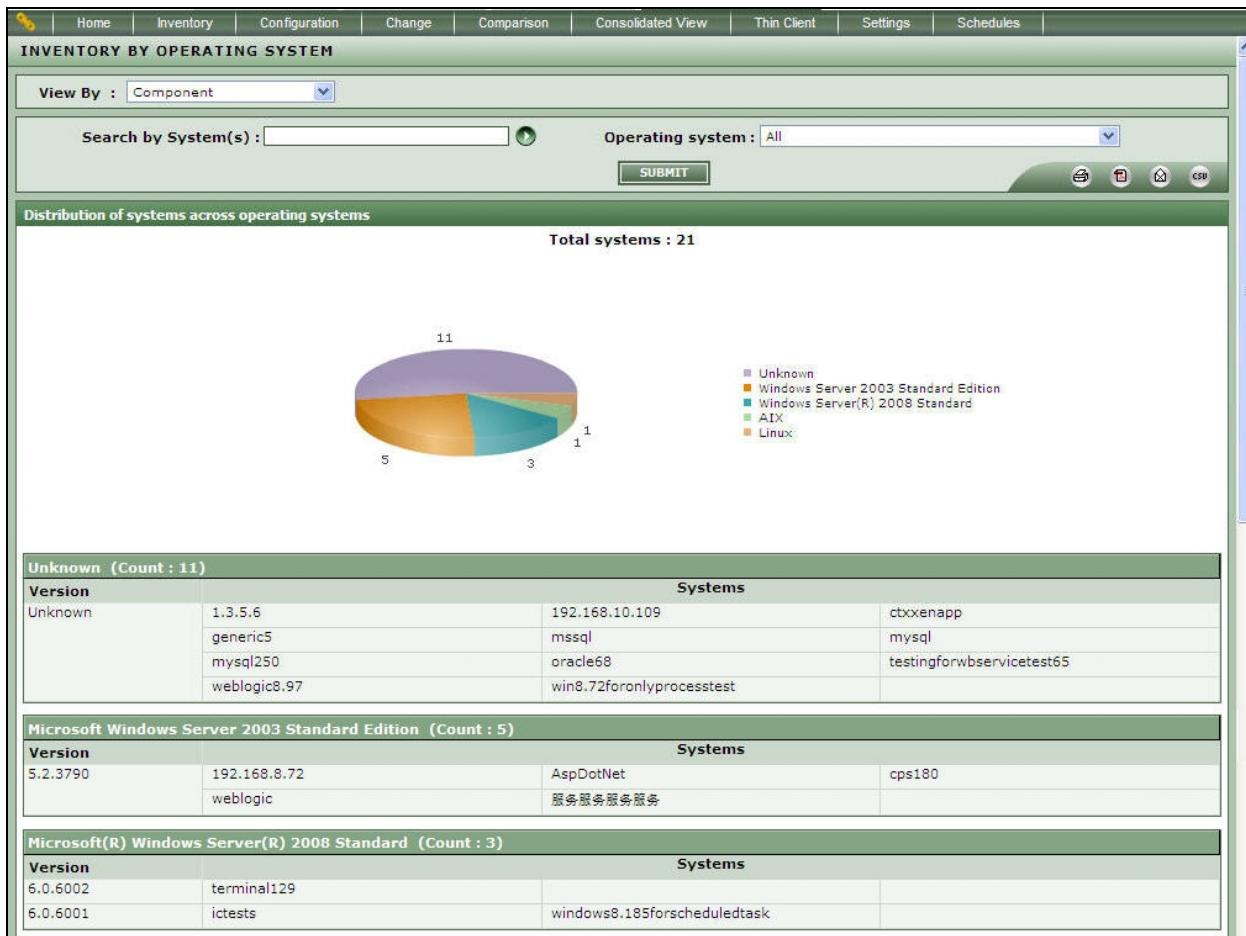

Figure 2.1: Viewing inventory across the operating systems
1. Select *All* option from the **Operating system** list box as depicted in Figure 2.1.